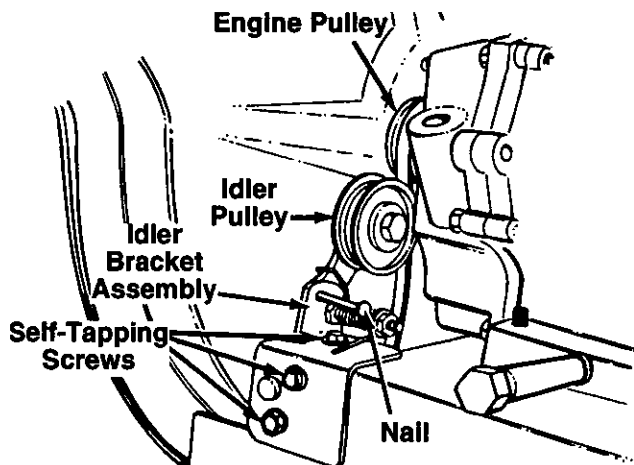

FIGURE 18.
5. Remove the idler pulley bracket as follows. (See figure 18.)
6. Remove the hex bolt and lock washer from the engine pulley. See figure 18. Slip the engine pulley off the engine shaft, and remove the belt from the pulley.